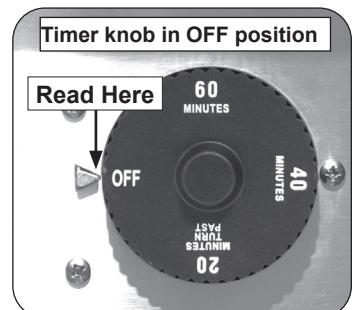

Fig. 33-3 Timer dial
**Important:** When using the timer for periods of less than twenty minutes, turn past twenty (to activate), then return (counter-clockwise) to the desired amount of time. This will ensure proper timer operation. See Fig. 33-3.